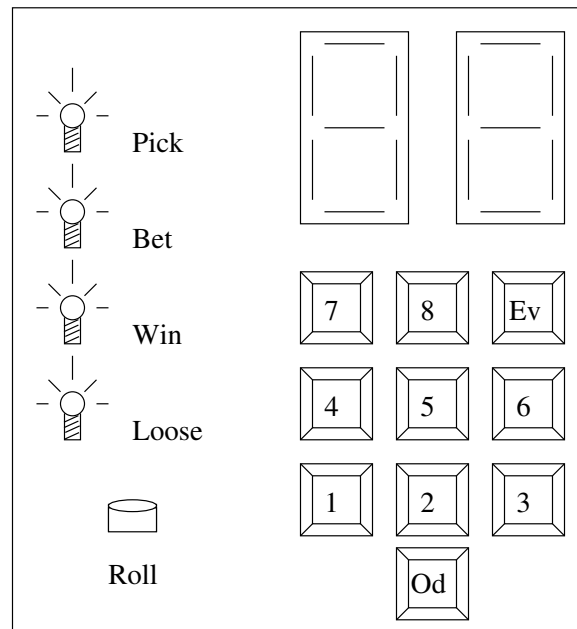

Figure 8.36: The layout of the roulette playing machine. The two 7-segment displays at the top are used for a variety of purposes.
17. **(36 pts.)** Design a digital circuit that plays a game of roulette, allows betting and keeps track of total earnings. The roulette wheel has 8 slots, labeled $1 \dots 8$. The player can play one of the numbers straight or play even or odd. The player starts with \$10. The layout of the machine is shown in Figure 8.36.